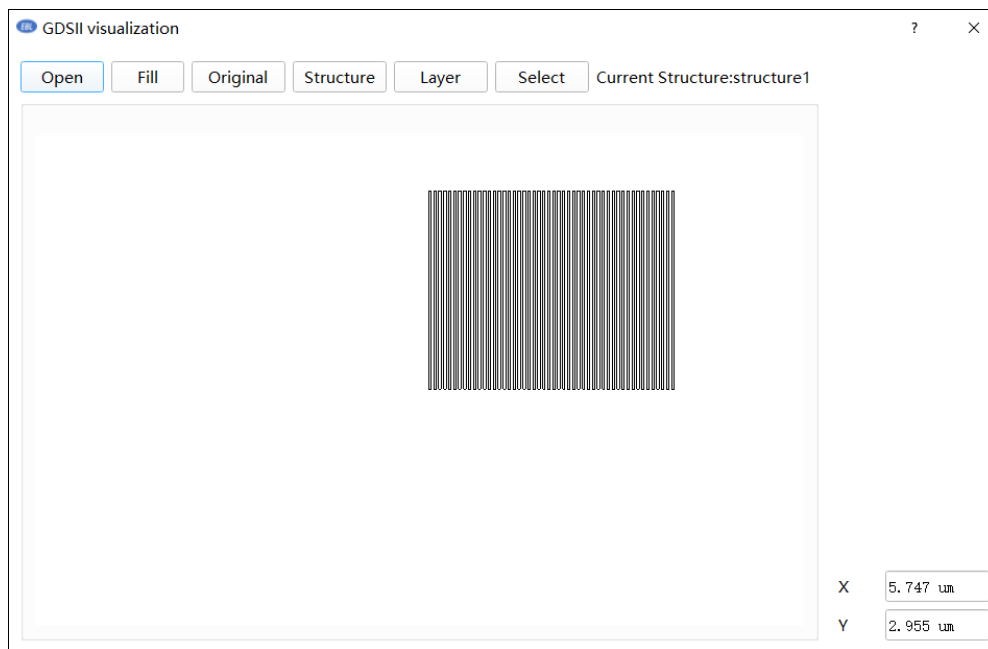

Figure 3.5.2 Click “Original”
- 2) You can click "Original" (Figure 3.5.2) to move the layout to the initial position. The coordinates (0, 0) move to the center of the screen.